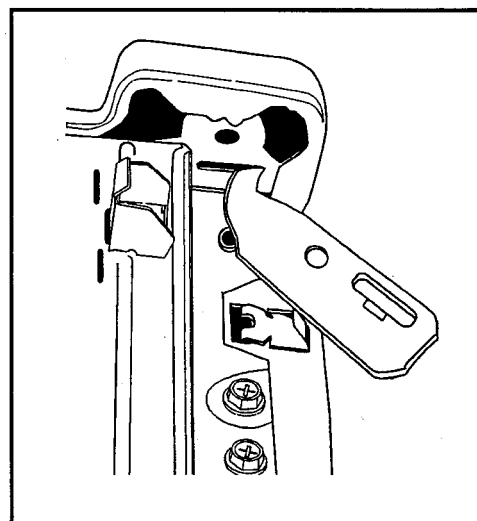

Figure 5-5
- To remove the hold down brackets, swing the bracket to the outside and unhook the bracket from the slot in the top cover lip, (See *Figure 5-5*).